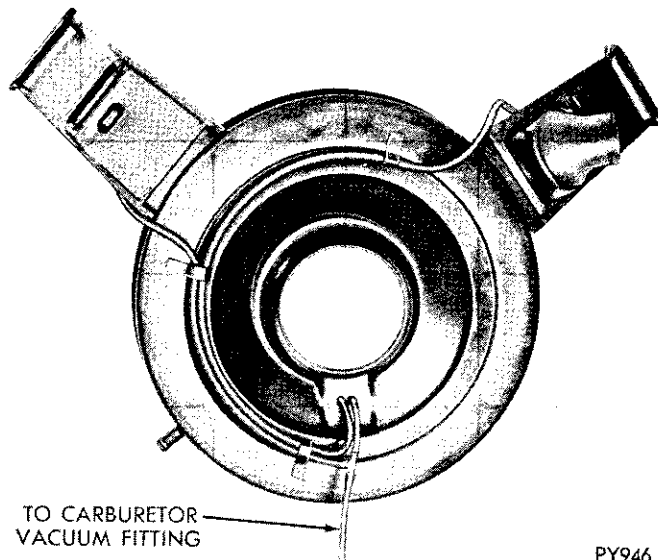

Fig. 4—Routing of Vacuum Hoses Dual Snorkel Air Cleaner
(1) On deep throttle accelerations, both snorkels are open (when intake manifold vacuum drops below the 5 inches Hg).
(2) The non-heat air snorkel is connected to manifold vacuum through a "TEE" in the vacuum hose between the carburetor and the sensor (Fig. 4).